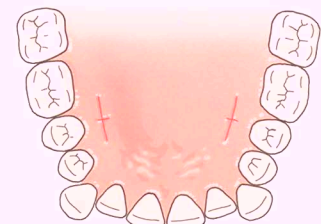

Fig 2
**2** After application of local anaesthesia with a vasoconstrictor, two incisions of 1 cm long are made in the palatal gingival over the roots of the second premolars (3/2 expansion canine/first molar) or the first molars (parallel expansion when the pterygo-maxillary junction is also released) (Fig 2). A small relieving incision is made perpendicular to end in the middle of the first incision.